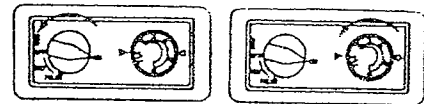

Figure 12
- Dual:* Release control knob pressure and turn clockwise  to OFF position. Depress control knob while OFF, then turn counterclockwise  back past IGN to PILOT. This should light the pilot (see Figure 12). The pilot is attached to the front of the burner and can be seen through the glass panel. Keep control knob depressed for ten seconds before releasing. If the pilot does not light, repeat steps 5 and 6, or use a match.